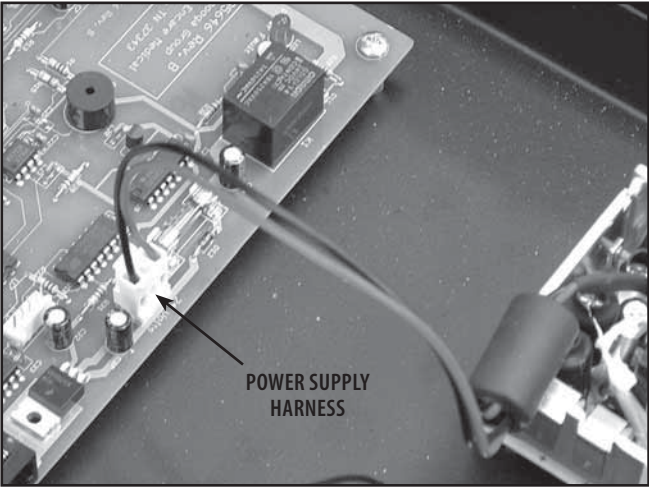

FIGURE 5.2
3. Disconnect the Power Supply Harness from the Control Board. See Figure 5.2.